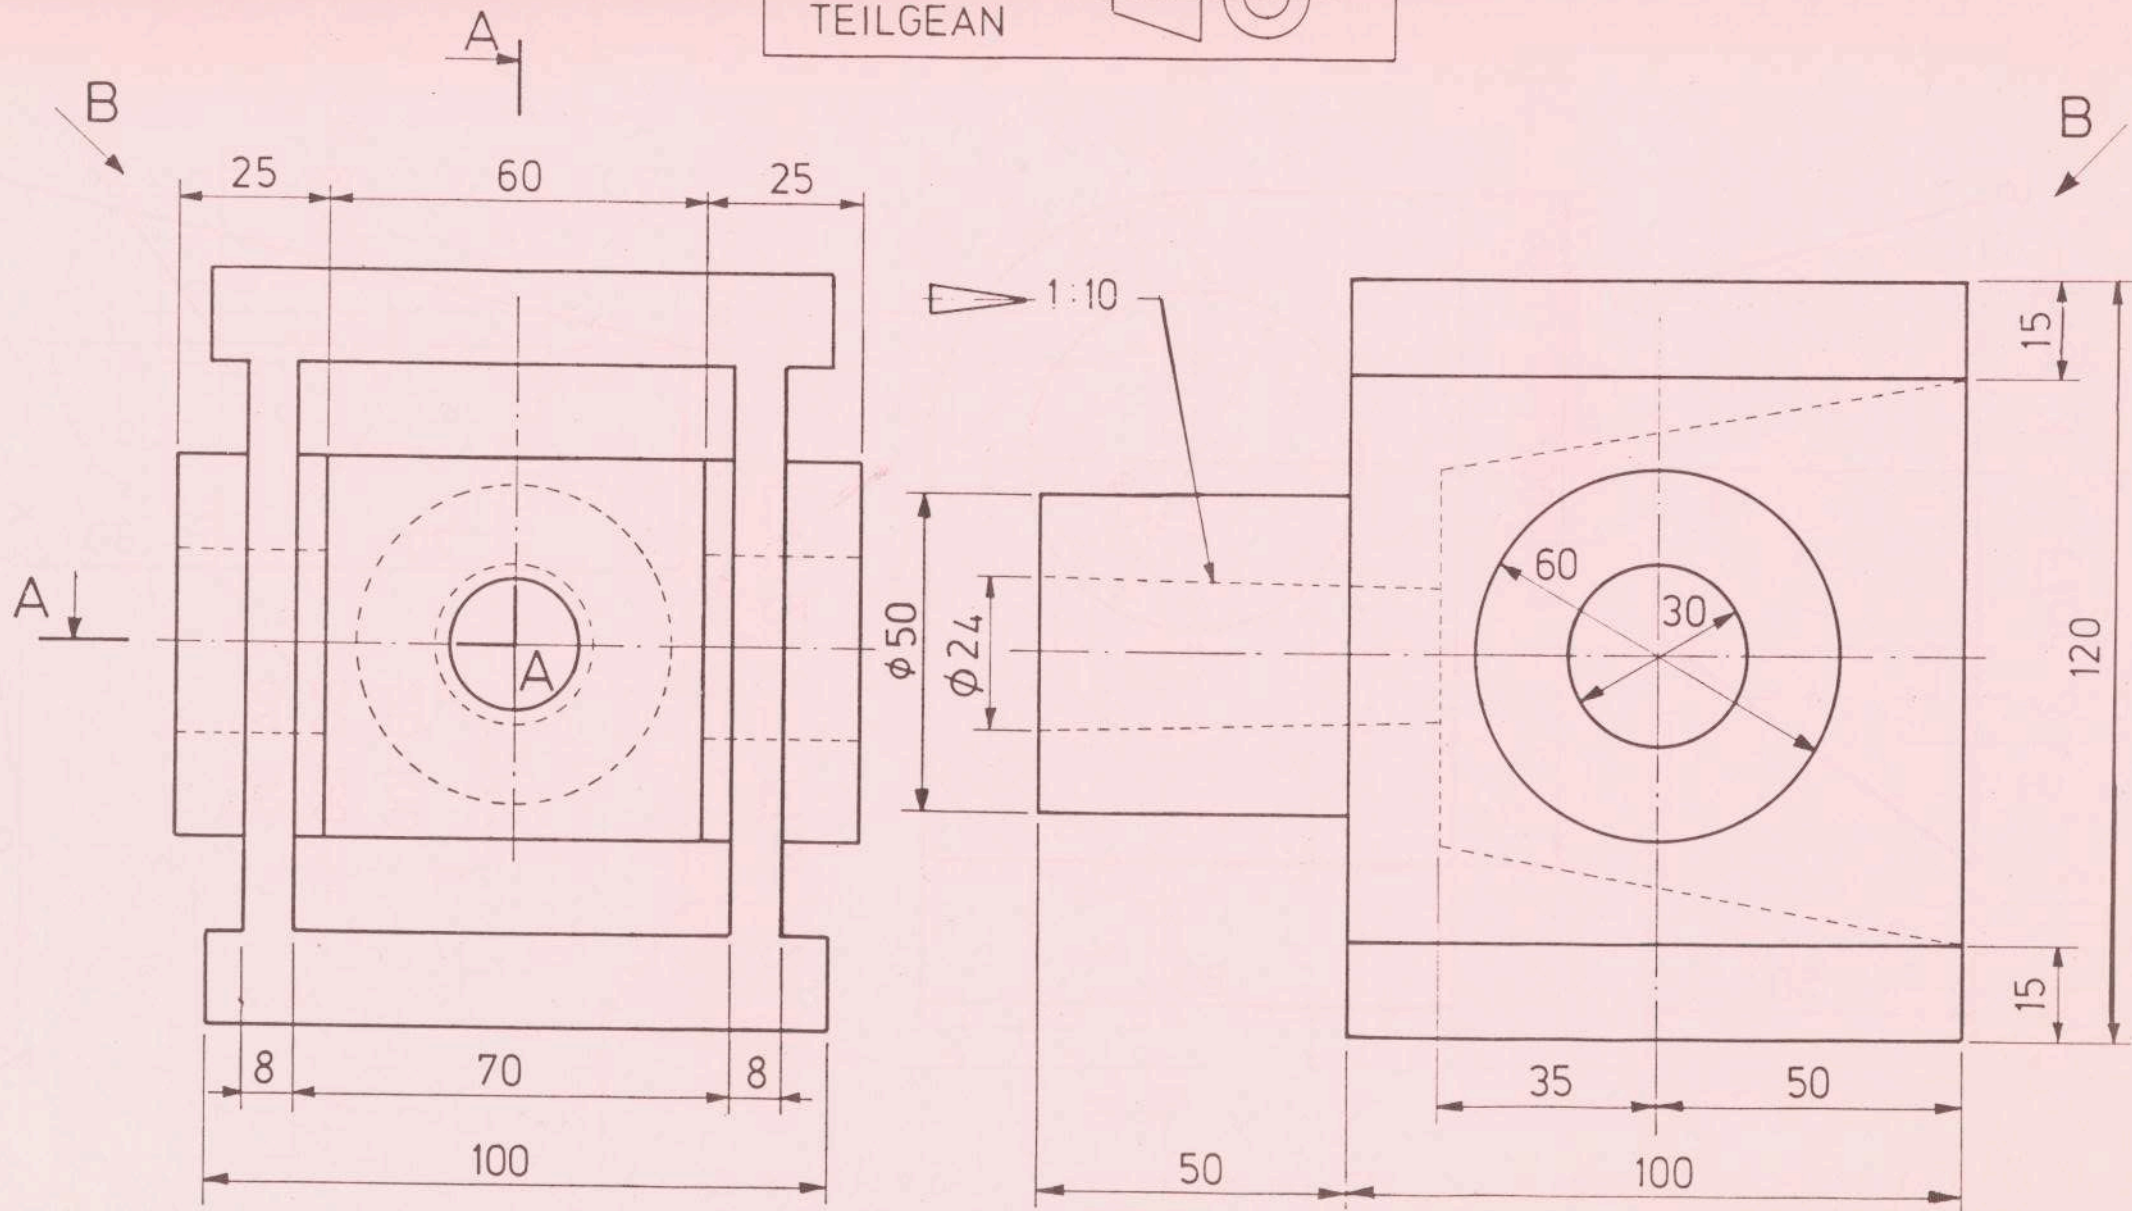

Fig. 4. Fíor 4.
6. Figure 4 shows two views of a transmission component.